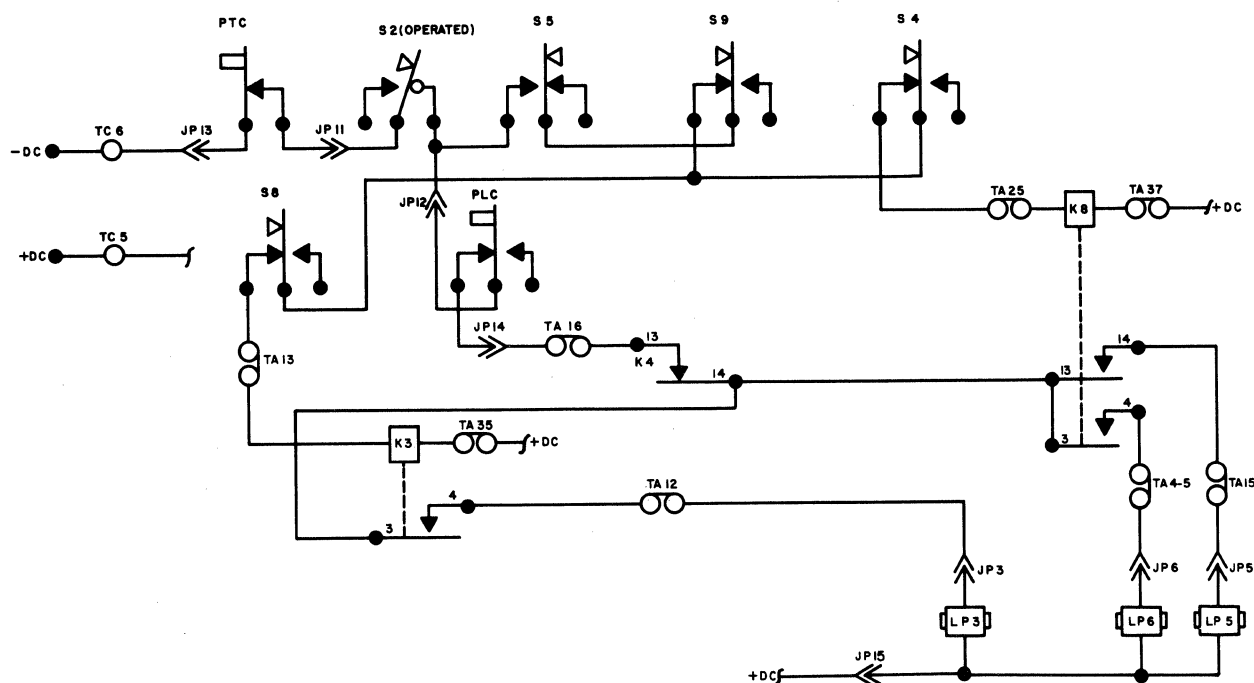

Figure 3-3 Skip Code Circuit
**Skip Code Circuit** — When the skip code switch S5 is operated, a 3-5-6 code is perforated in the tape. This is due to the K3 and K8 relays being energized and completing circuits to punch magnets L3, L5 and L6. The circuit to K8 is as follows: (Figure 3-3) from -DC, TC6, JP13, PTC, JP11, N/O S2, N/O S5, N/C S9, N/C S4, TA25, K8 coil, TA37, TC5, to +DC. With K8 energized, the circuit